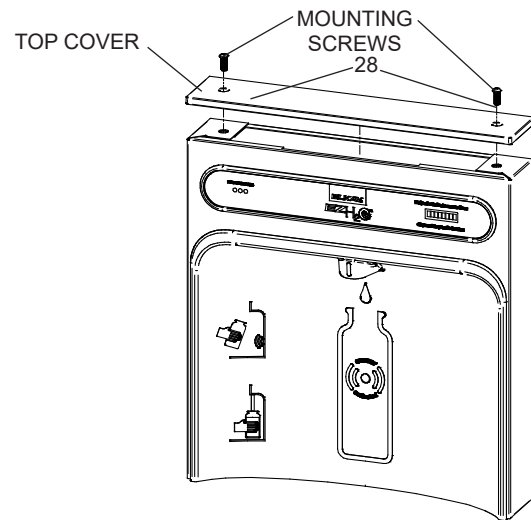

Fig. 5
- 1) **Remove two (2) mounting screws** with 5/32" Allen wrench holding top cover to Bottle Filler (See Fig. 5). Remove top cover. Note do not discard mounting screws, they will be needed to reinstall top cover.
- 8) **Once Bottle Filler is installed** on wall plate tabs, water line, wire(s) and power cord are installed properly, push top of Bottle Filler toward wall and line up top cover two (2) holes.
- 9) **Reinstall Top Cover on Bottle Filler** (See Fig. 5) with two mounting screws from step 1 above. Caution, do not over tighten screws.